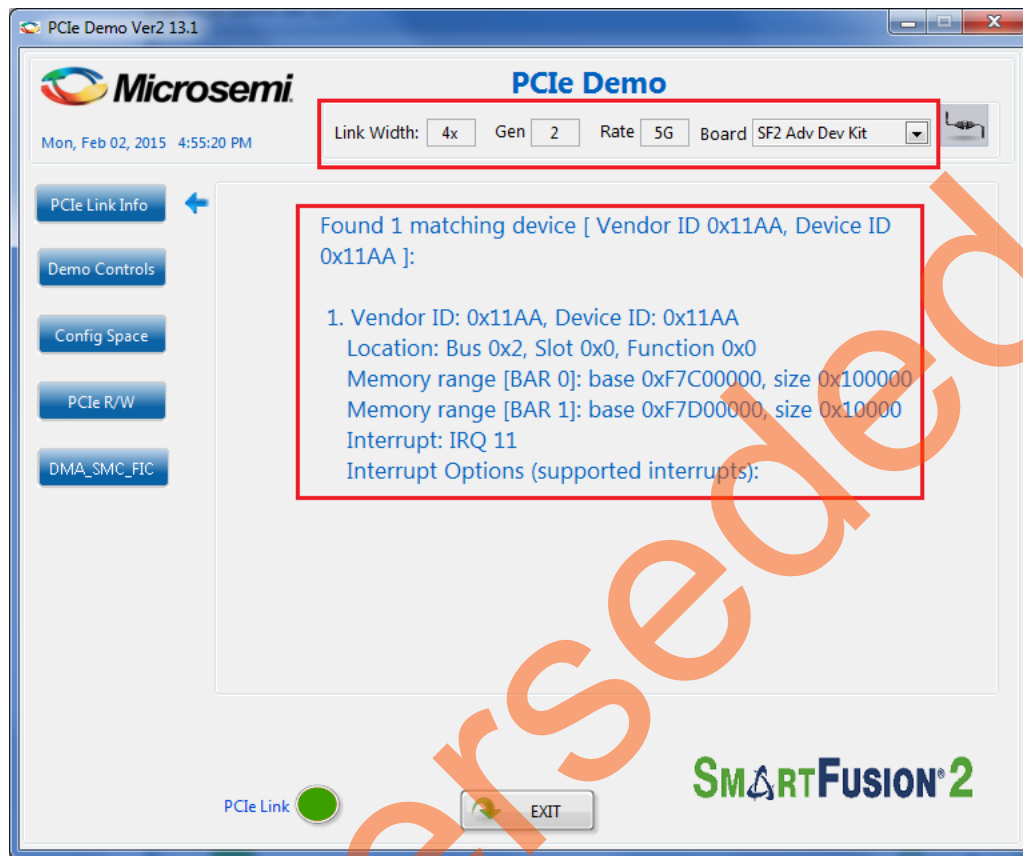

Figure 19 • PCIe Device Information
4. Click **Connect** at top right corner of the PCIe_Demo application. The application detects and displays the connected kit, demo design and PCIe link. Figure 19 shows the sample messages after the connection is established.